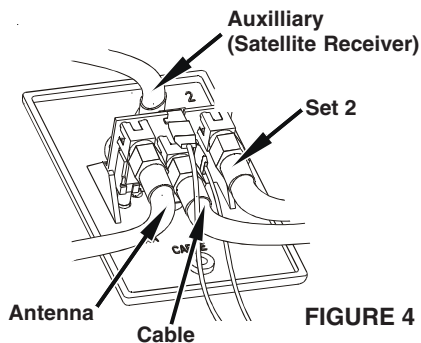
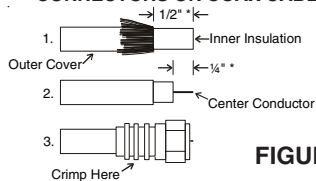

FIGURE 4
FIGURE 5
STEP 5. Install connectors on download and set 2 cable as shown in Figure 5. Attach download cable to jack on wall plate/amplifier marked antenna as shown in Figure 4. Attach cable going to set 2 outlet to jack on power supply marked SET 2. Attach cable coming from cable input to jack on power supply marked CABLE. Attach cable coming from satellite antenna to jack on power supply identified below as satellite (auxiliary).